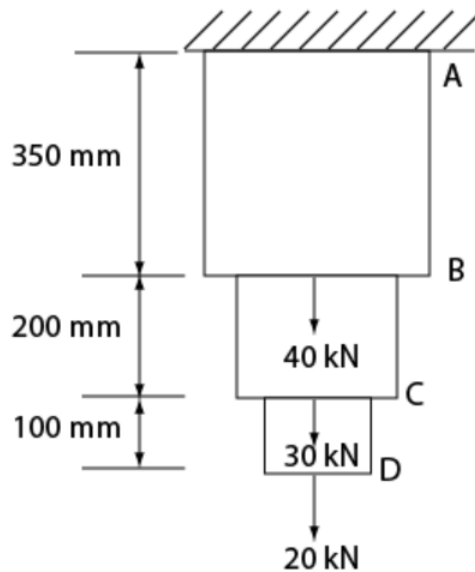

Figure Q1 (a)
- (a) Three solid cylindrical rods AB, BC and CD are welded together at B and C, and loaded as shown in Figure Q1(a). The maximum allowable average normal stress must not exceed 150 MPa in either of the rods, determine the smallest allowable diameter of rod AB, BC and CD.